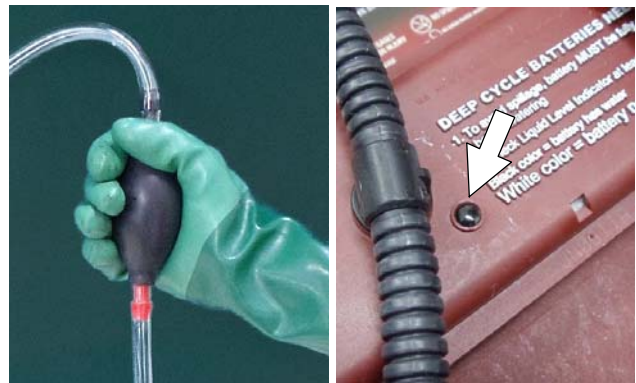

FIG. 82
5. Squeeze the bulb on the hand pump hose until firm (Figure 82). The level indicators will turn black when full.